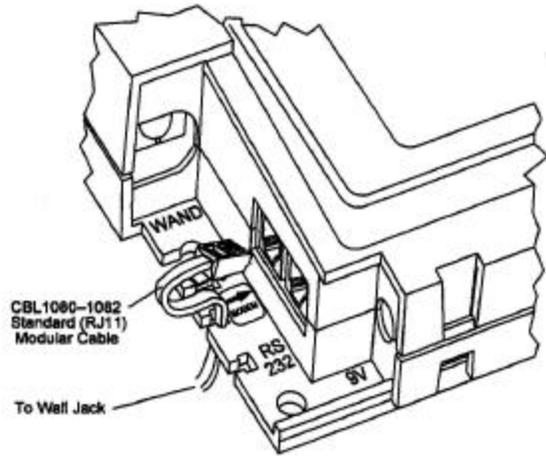

Figure 4: Modem Label Application
Although the port is identified **RS485** (chassis marking), a self-adhesive label that reads **MODEM** is applied over the existing chassis marking as shown in Figure 4.
- Route and connect one end of the telephone cable to the terminal (refer to Figure 4)